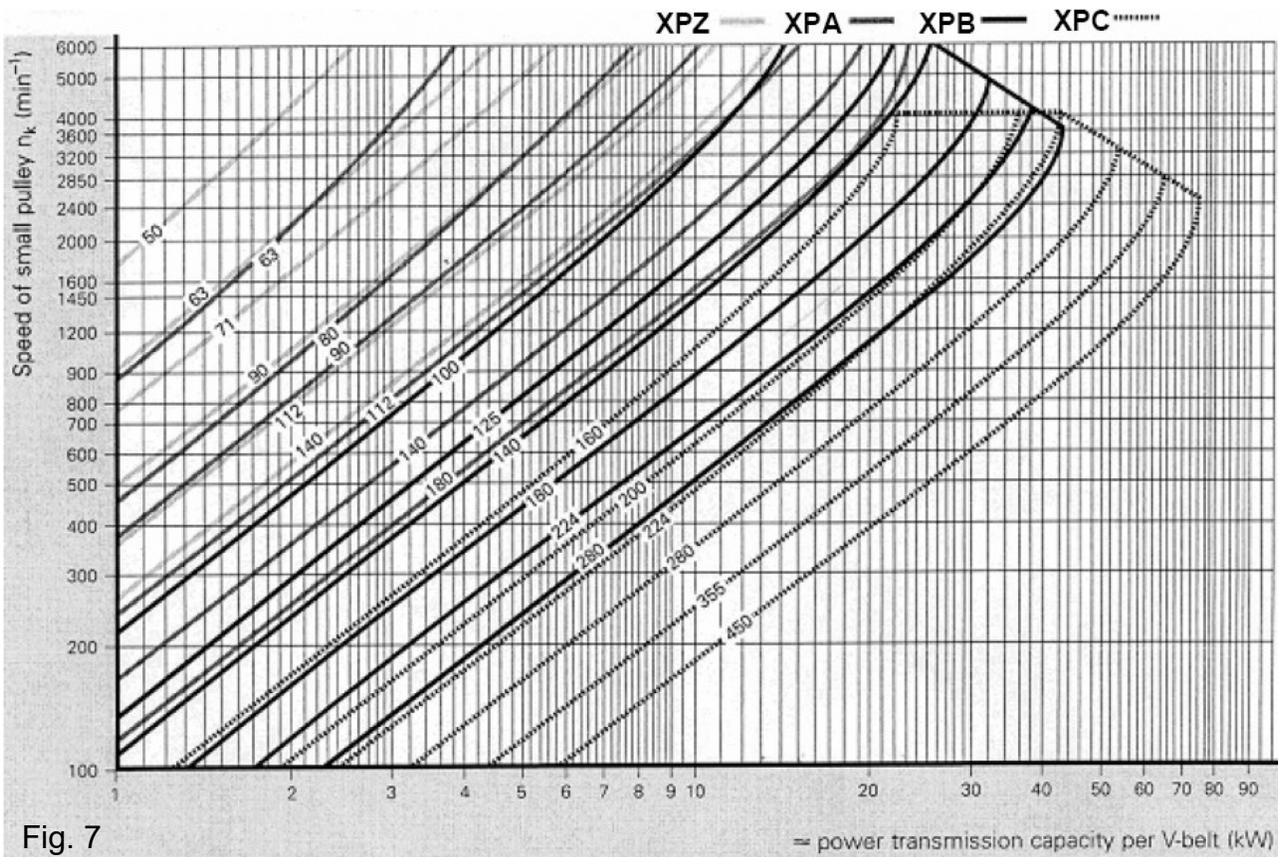
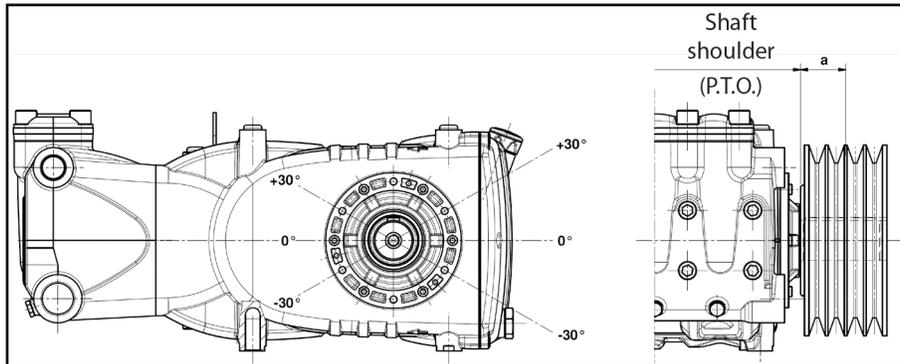

Fig. 7
Fig. 10
The pump can be controlled by a V-belt system. For this pump model, we recommend use of 4 XPB belts (16.5 x 13 serrated). Use an XPC profile only for long durations. Both the characteristics and transmissible power of each belt can be verified in the diagram in fig. 7, in relation to the number of rpm normally declared by the manufacturer. Minimum duct pulley diameter (on pump shaft):  $\geq 250$  mm. The radial load on the shaft must not exceed 5532 Ft lbs (7500 N) (value necessary for layout definition). The transmission is considered adequate if the load is applied to a maximum distance  $a=1.57$  in (40 mm) from the shaft shoulder (P.T.O) as shown in fig. 10.
B) Use high performance belts - for example **XPB** instead of **SPB** - as a lower quantity of belts for the same transmitted power may be necessary and a consequent shorter resulting distance compared to the shaft shoulder (P.T.O) "a" fig. 10.